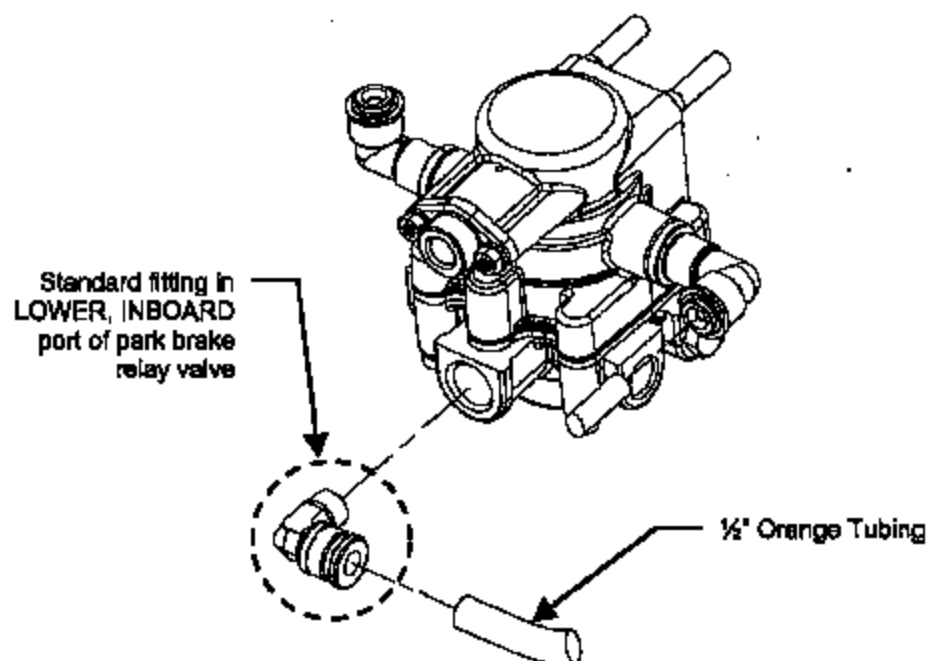

Figure 2
3. Remove the standard fitting from the LOWER, INBOARD (see figure 2) port of the park brake relay valve.